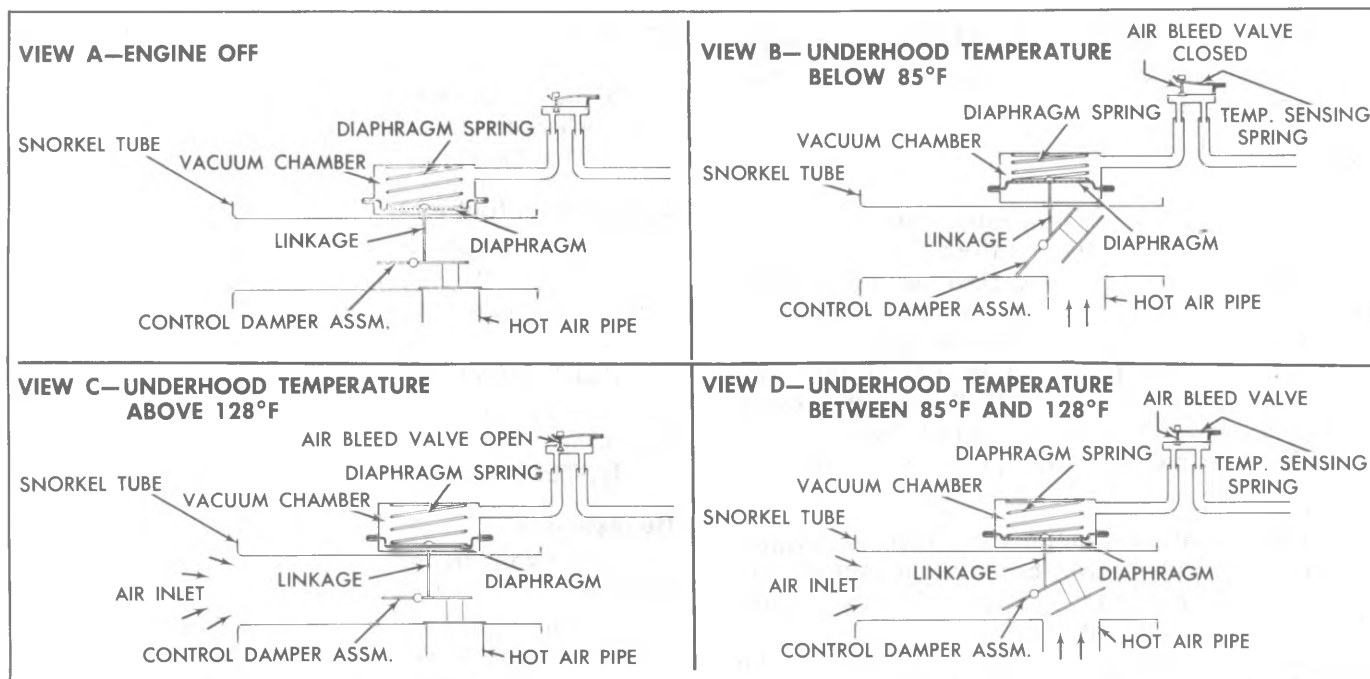

Fig. 6E-26—Air Cleaner Operation
2. With the engine "OFF", observe damper door position through snorkel opening. If position of snorkel makes observation difficult, use the aid of a mirror. At this point damper door should be in such a position that the heat stove passage is covered (snorkel passage open) (Fig. 6E-26). If not, check for binds in linkage.
is applied. (Fig. 6E-26). If not, check to see if linkage is hooked up correctly and for a vacuum leak.
4. With vacuum applied, bend or clamp hose to trap vacuum in diaphragm assembly. Damper door should remain in position (closed snorkel passage) (Fig. 6E-24). If it does not, there is a vacuum leak in diaphragm assembly. Replace diaphragm assembly.
2. Observe the damper door before starting the engine: it should be in the open snorkel position (Fig. 6E-26).
3. Start the engine and allow it to idle. Immediately after starting the engine, the damper door should be in the closed snorkel passage position (Fig. 6E-26).